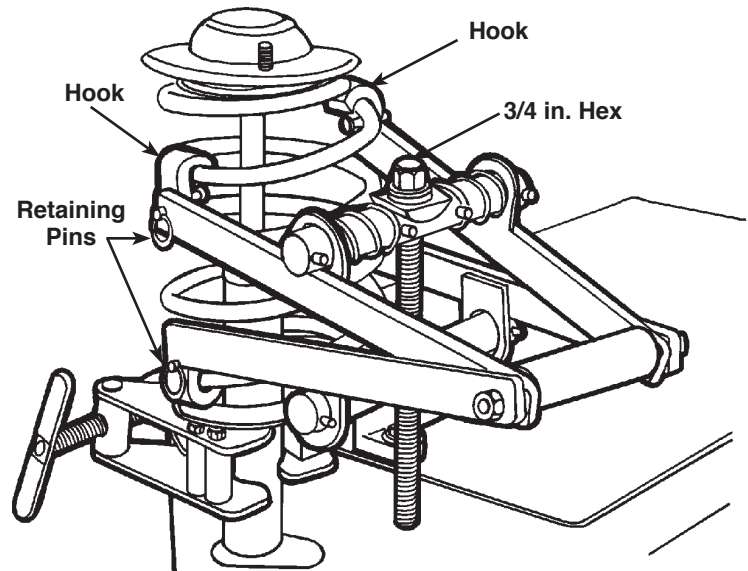

Figure 1
4. Place two hooks around a coil as close to the top of the spring as possible. **Note: The 3/4 in. hex on the forcing screw should be up.** Place the other two hooks as close to the bottom of the spring as possible. Push in the four retaining pins. See Figure 1.